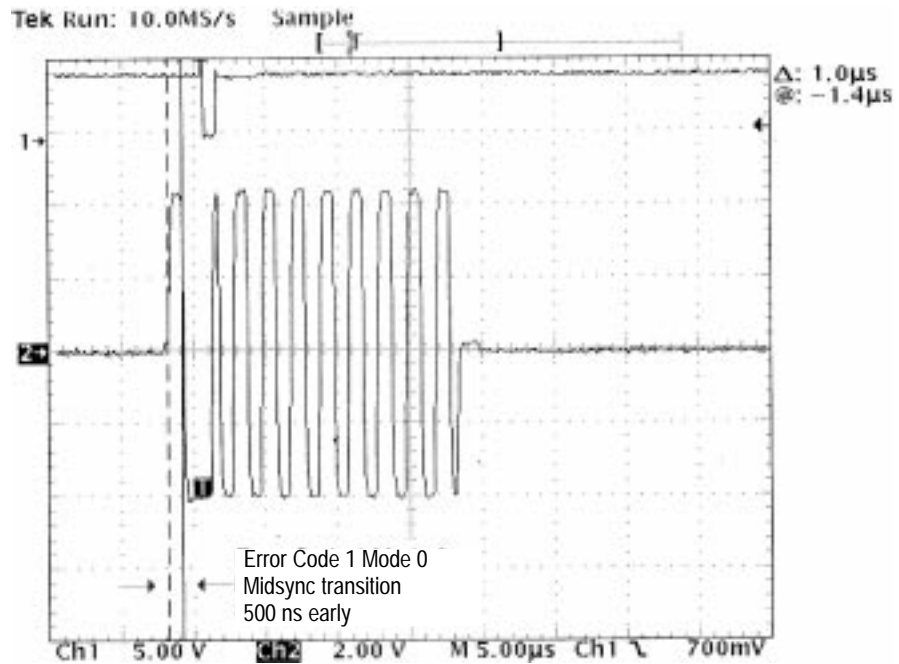

Figure 455-12: Midsync Transition 500 ns Early
2. Measure from the beginning of the sync to midsync. Verify that the reading is $1\ \mu\text{s} \pm 70\ \text{ns}$. Refer to Figure 455-12.